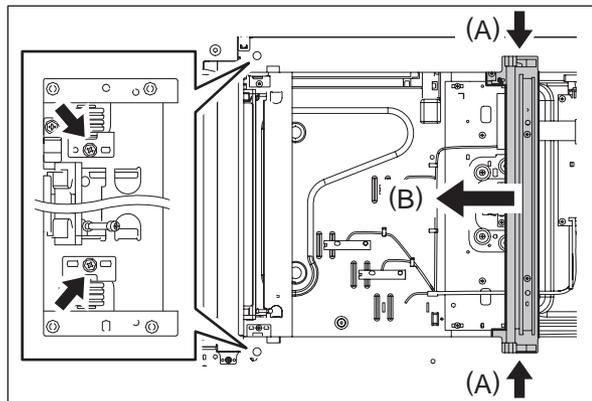

Fig. 4-113
2. When installing carriage-2, fix the bracket temporarily at the position (A). Then move it to the direction (B), push it to the end and fix securely.
P. 4-38 "Fig. 4-113 "